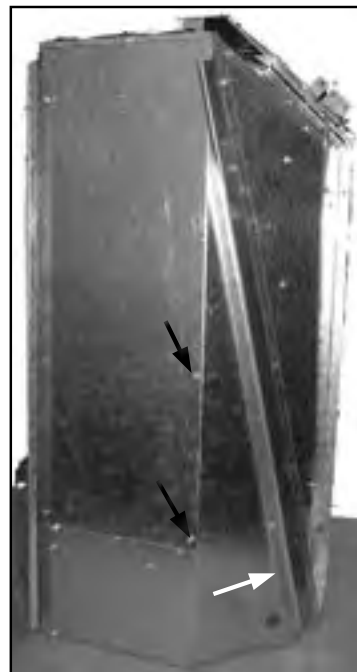

Figure 47: Move Back Stand-Off.
2. Remove the two (2) bottom screws securing the stand-off (see Figure 47) and swing it out of the way.
3. Install the two (2) grommets; place a 8-32 x 3/4" bolt through each grommet, then